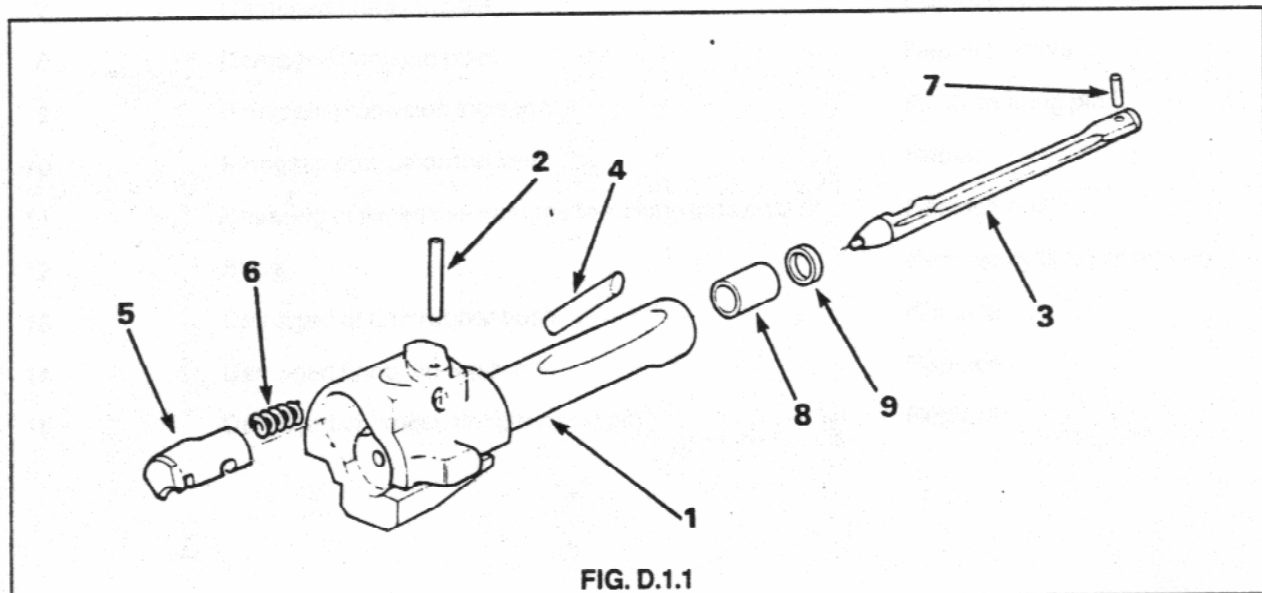

FIG. D.1.1
3. The bolt assembly consists of the following components, as illustrated in Fig. D.1.1